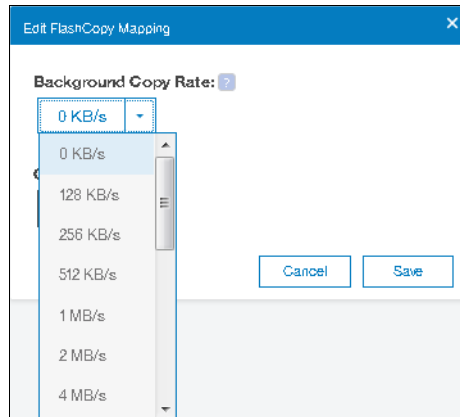

Figure 10-58 Modifying Background Copy Rate
4. In the Edit FlashCopy Mapping window, you can modify the Background Copy Rate from the drop-down as parameters for a selected FlashCopy mapping, as shown in Figure 10-58 on page 508.